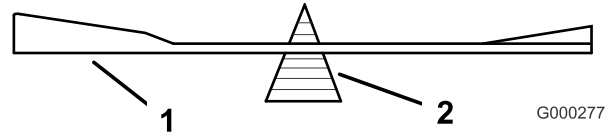

Figure 94
2. Check the balance of the blade by putting it on a blade balancer (Figure 94). If the blade stays in a horizontal